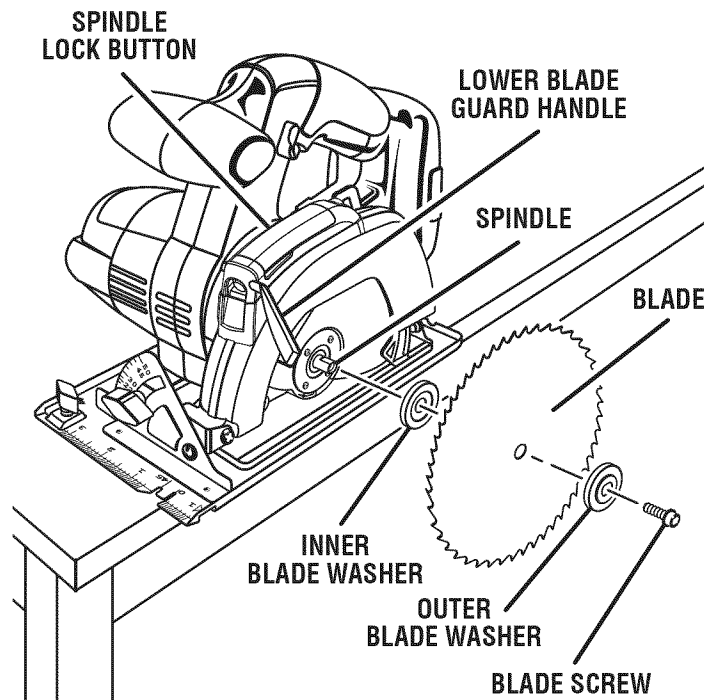

Fig. 2
See Figure 2.
**NOTE:** The saw teeth point upward at the front of saw as shown in figure 2.